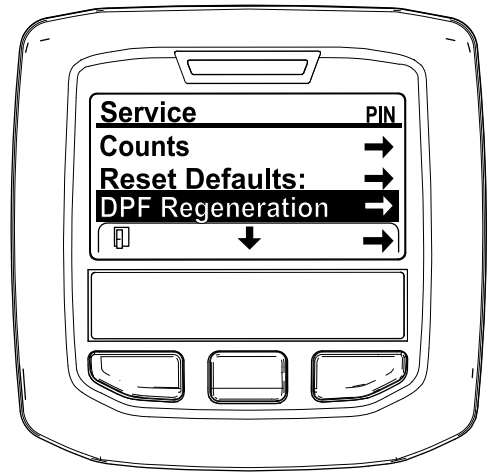

Figure 32
3. In the SERVICE MENU, press the middle button until the DPF REGENERATION options displays, and press the right button to select the DPF REGENERATION option (Figure 32).